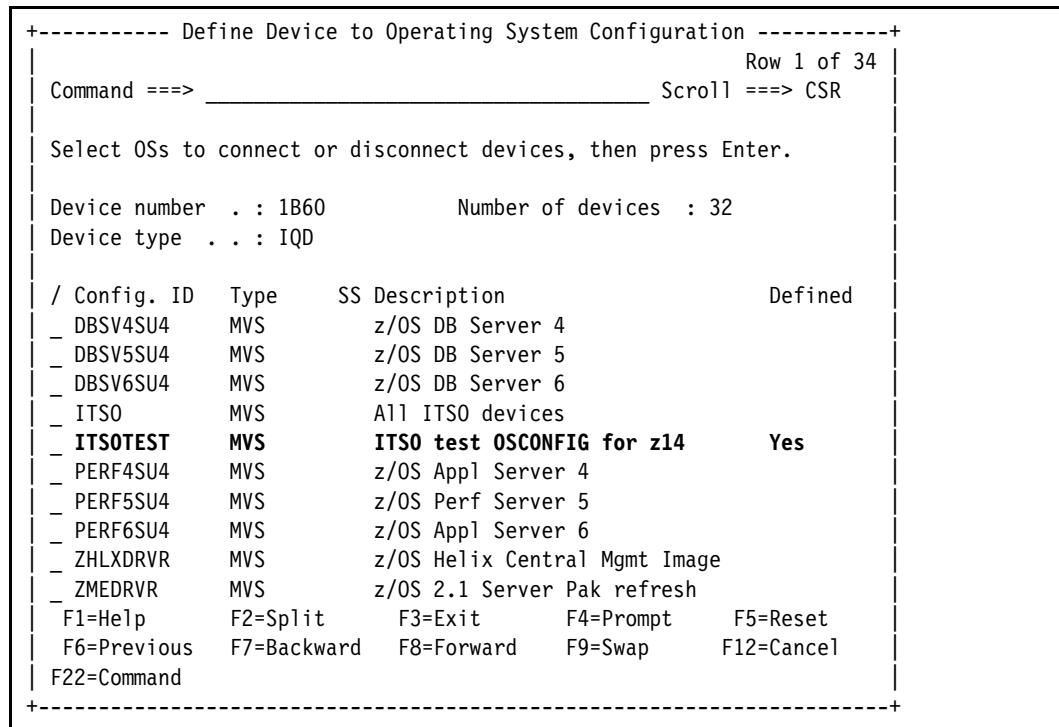

Figure 13-68 I/O Devices: Assign/Unassign Device to Esoteric, IQD
9. The Assign/Unassign Device to Esoteric panel is now displayed where you can specify which Esoteric (if any) you want the devices to be added to. We will only be adding the IQD devices to the OS CONFIG ITSOTEST and not to any esoterics in this example. Press Enter (Figure 13-68).